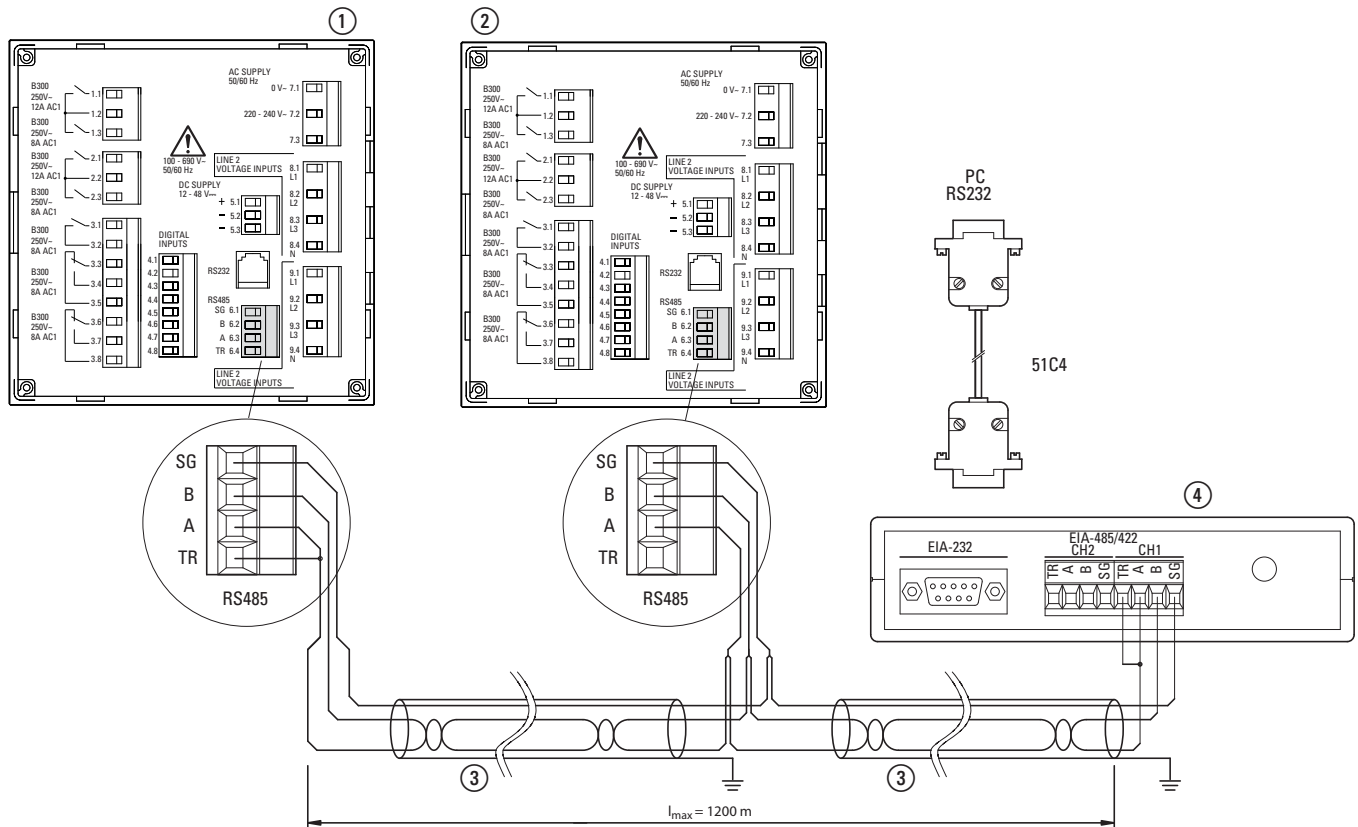

Figure 3: Connection RS485 interface
- ▶ Connect all RS485 interfaces in parallel via the twisted pair cable to an interface converter, → Figure 3, page 8. Make sure the polarity is correct (A and B terminals). The interface converter must be insulated and have an automatic enable line control circuit.